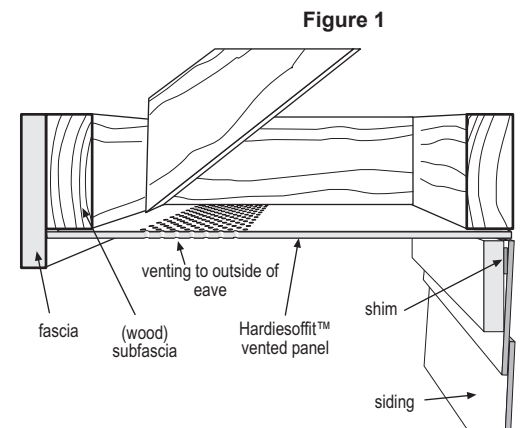

Figure 1
- Soffits can be installed as shown in figure 1. Position the vent holes toward the outside of the eave for optimal airflow.